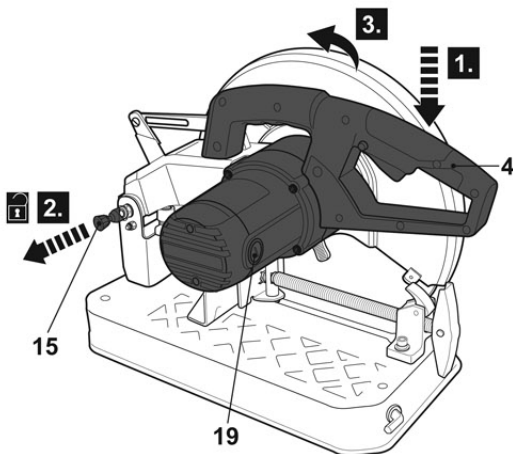

Fig. 2
- > Apply slight pressure downward on the operation handle (4) and pull the unlocking pin (15) out to unlock the motor unit (19).
- > Slowly guide the motor unit upwards to the full height (Fig. 2).